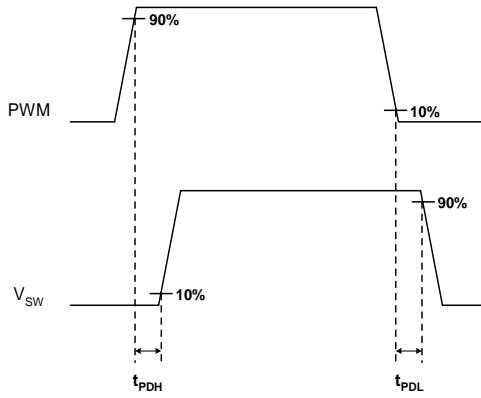

Figure 10 Timing Diagram
4. TPDH and TPDL are not associated with rise and fall times. Does not affect Power Loss (see Figure 10).